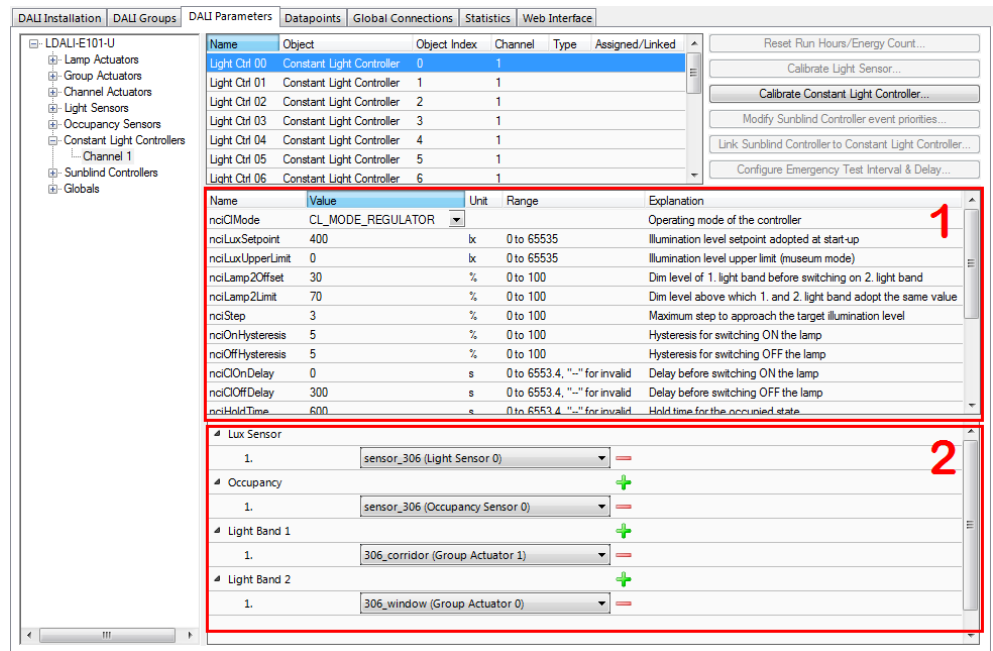

Figure 37: Parameterize Constant Light Controller.
- Select the constant light controller with index 0 as shown in Figure 37. The parameters of the selected constant light controller are displayed in the middle of the window (1).